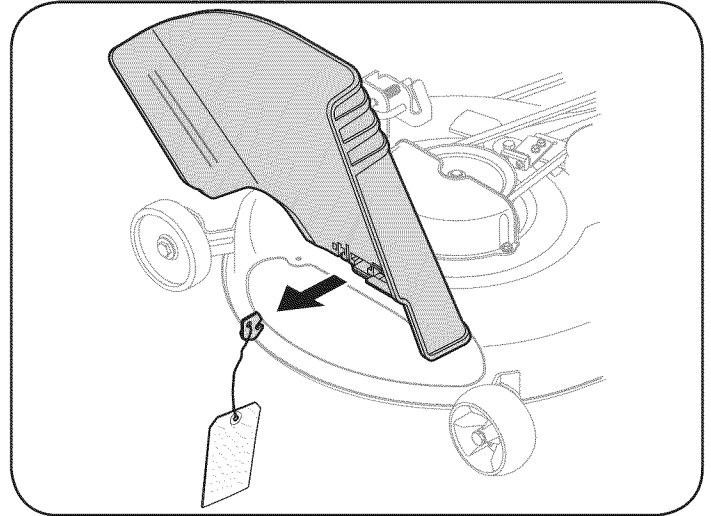

Figure 2
1. Locate the shipping brace, if present, and warning tag found on the right side of the cutting deck. See Figure 2.